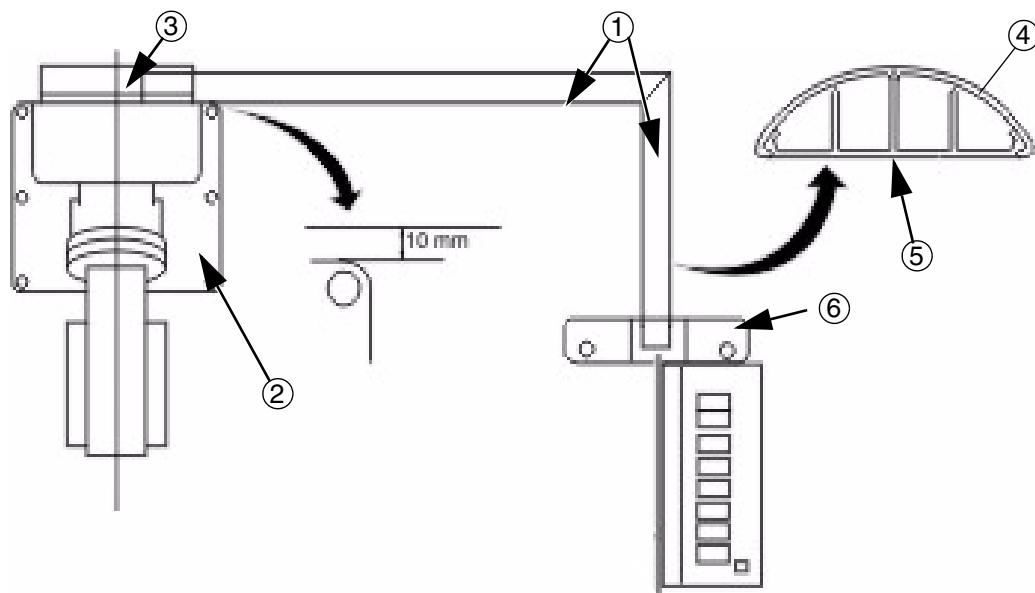

Fig. 1 Installing the cable ducts (top view)
1. Position the cable ducts (1/Fig. 1) to the stand and the radiation shield respectively.
2. Leave sufficient space, approx. 10 mm between the cable ducts (1/Fig. 1) and the base plate of the stand (2/Fig. 1) to allow for the mounting of the cable outlet cover (3/Fig. 1).
3. Check that the cable duct (1/Fig. 1) is slightly overlapped by the cable outlet cover (3/Fig. 1).
1. Mark the outlines of the cable ducts (1/Fig. 1) on the floor.
2. Cut the bottom of the cable ducts (5/Fig. 1) and the cable duct cover (4/Fig. 1) to proper length.
**Fig. 1 shows a right-angled installation of the cable ducts.**
3. Fasten the bottom plate of the cable ducts (5/Fig. 1) to the floor according to the marking using double-sided adhesive tape.
4. At the radiation shield, cover the cable entry not used with the enclosed cover plate (6/Fig. 1).